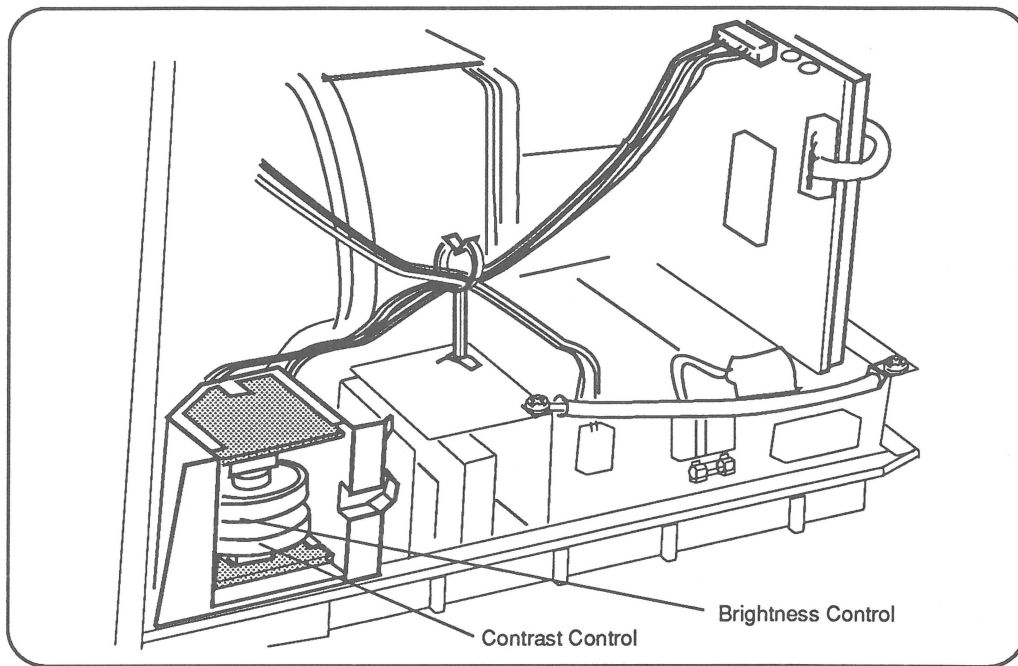

Figure 3-14 Brightness and Contrast Controls
3. **Figure 3-14.** Set the Brightness control to maximum brightness, and set the Contrast control to maximum contrast (turn the knobs away from the screen).